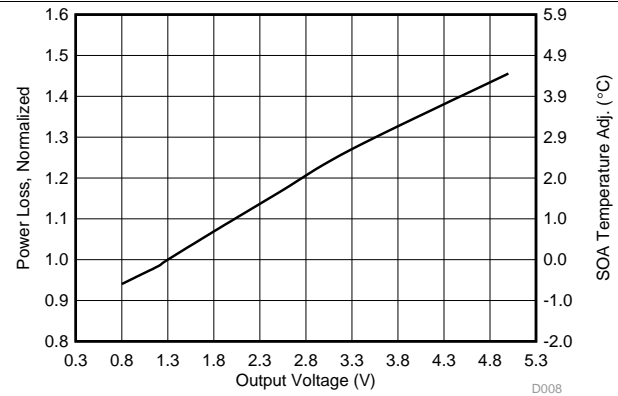

图 6. Normalized Power Loss vs Output Voltage
- Normalized power loss for output voltage ≈ 1.07 (图 6)
- SOA adjustment for output voltage $\approx 0.68^\circ\text{C}$ (图 6)